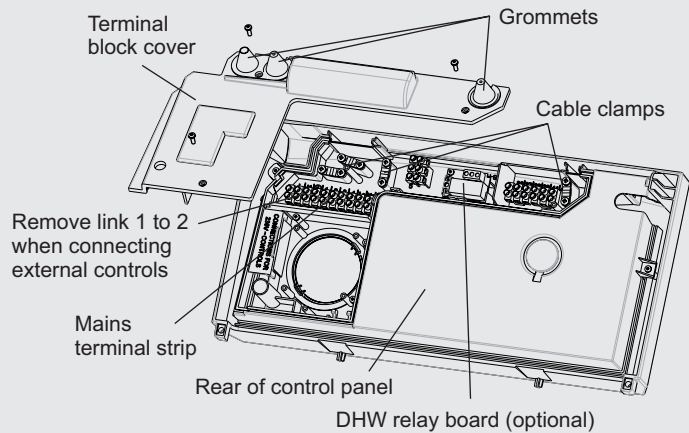

Fig. 5.14
Remove the three screws securing the terminal block cover from the back of the control box (see Fig. 5.14). Pass the mains supply cable through the grommet and cable clamp and connect as follows:- Brown to L, Blue to N and Green/Yellow to \oplus . Ensure correct polarity.
1. Remove the three screws securing the terminal block cover at the rear of the control panel, see Fig. 5.14.
The Alpha DHW relay kit can be used to enable the weather compensation feature for central heating with the optional external sensor fitted and maintain a set flow temperature during hot water demand to achieve the required cylinder set temperature. This feature requires the DHW relay kit part No. 3.029422 to be fitted into the control panel as shown in Fig. 5.14.